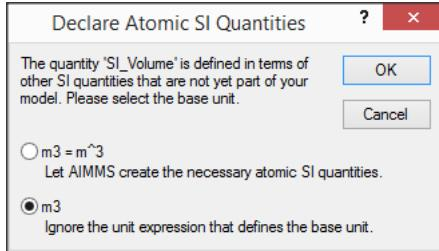

Figure 6.2: The **Ignore Unit Expression** dialog box
- ▶ select the second option ‘m3’ as in Figure 6.2, and